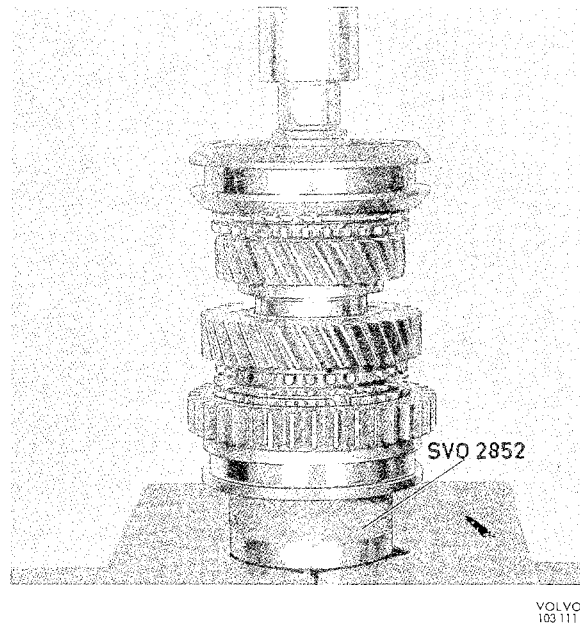

Fig. 4-23. Synchronizer installation
3. Place ring 2852 in a press and fit on the synchronizing and the gear wheel. Fit the needle bearing and press in the mainshaft, see Fig. 4-23. When doing this, turn the 3rd speed gear wheel in order to check that this gear as well as the needle bearing fit correctly. Try out a circlip which fills the groove well and fit the circlip.
4. Place 1st-2nd speed synchronizer, synchronizing cone, 2nd speed gear wheel and needle bearing on ring 2852. Make sure that the gear ring on the engaging sleeve comes forwards and that the flanges fit correctly in the grooves of the synchronizing cone. Press in the mainshaft, see Fig. 4-23. When doing this, turn the 2nd speed gear wheel to prevent it from fastening. Try out a circlip which fits well into the groove on the shaft and fit the circlip.